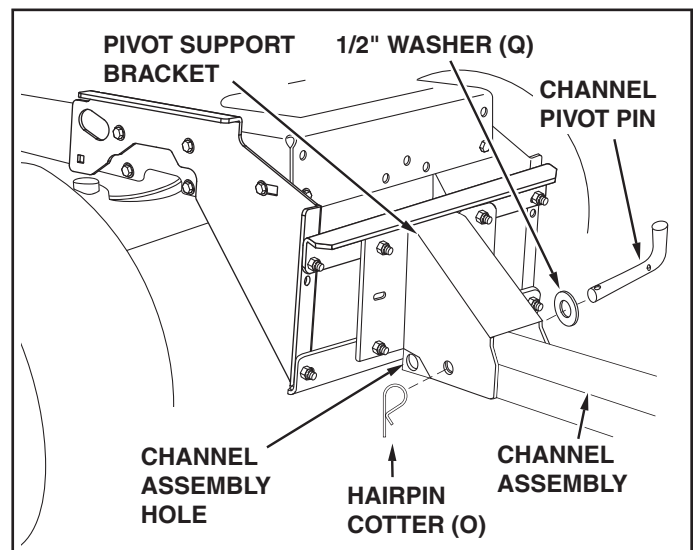

FIGURE 18 (Right Hand Side View)
STEP 18: (SEE FIGURE 18)
- Assemble the large 1/2" washer (Q) onto the channel pivot pin.
- Attach the channel assembly to the tractor by placing the end of the channel assembly up inside the pivot support bracket on the tractor. Align the hole in the pivot support bracket with the second hole from the end in the channel assembly. Insert the channel pivot pin through the aligned holes from the left side and secure with a hairpin cotter (O).
- From the left side, insert the welded end of the lift handle rod through the hole in the end of the channel assembly (Figure 18). Next, insert the lift link pin through the hole in the bracket that is welded to the lift handle rod. (The lift link is pre-assembled to the pivot support bracket). Secure the bracket with a hairpin cotter (O) inserted up through the lift link pin.